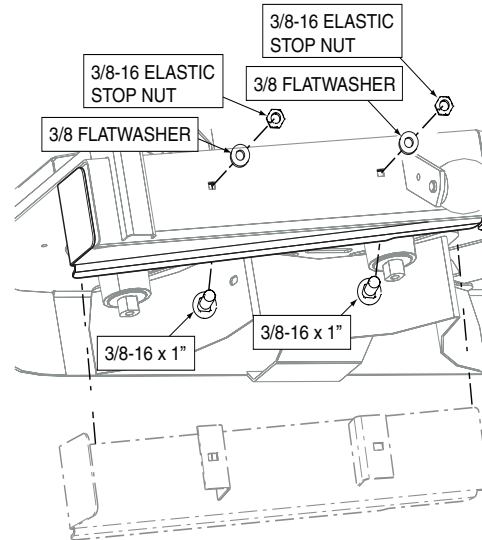

Figure 2-9. Right Side Deck Baffle Installation
3. Install the right side cutter deck baffle supplied in the grass catcher Installation Kit as shown in Figure 2-9. Secure using (2) 3/8-16 x 1" carriage bolts, (2) 3/8" flatwashers and (2) 3/8-16 elastic stop nuts.